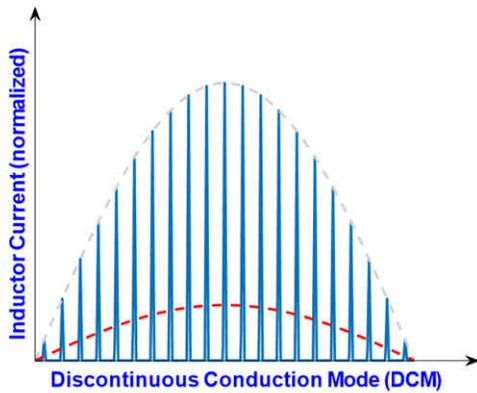

Figure 4. Inductor Current Waveform for DCM Operation
The boost PFC has three operation modes based on the inductor current waveform shape: Discontinuous Conduction Mode (DCM), Critical Conduction Mode (CrCM) and Continuous Conduction Mode (CCM). The CrCM is also referred as Transition Mode (TM) in some literature. The inductor current waveform is show in Figure 4 for each mode. One key distinction of DCM and CrCM is that the current always reaches to zero in each switching cycle, where it doesn't in CCM.